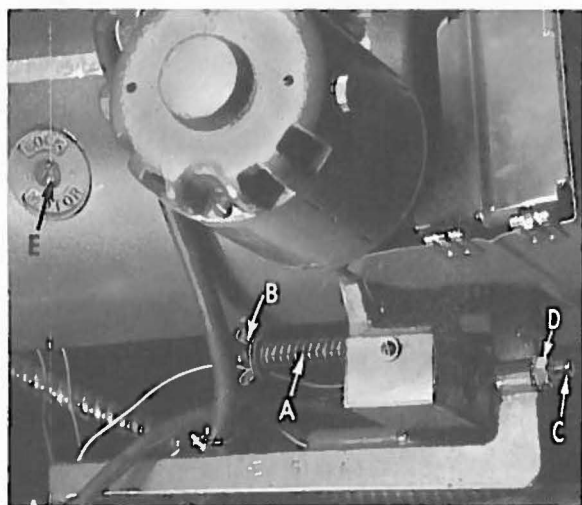

Fig. 19
- (b) Adjust clutch so that clutch arm has an additional $1/16$ to $1/8$ inch travel before clutch is engaged. Loosen lock screw (E, Fig. 19) just enough to unlock it, which is approximately one full turn. Adjust screw located near the top on right end of motor, until clutch is engaged as described above. Tighten lock screw (E).
- (b) Adjust clutch arm spring (A, Fig. 19) so that treadle will return to stop (wing nut washer (B) is to be approximately $1/2$ inch from end of stud).
- (c) Close treadline switch by heeling back on treadle and loosen clutch arm switch adjusting screw (C), until there is no contact between it and the micro switch. Then tighten screw until needle positions up. Tighten nut (D) to maintain setting.